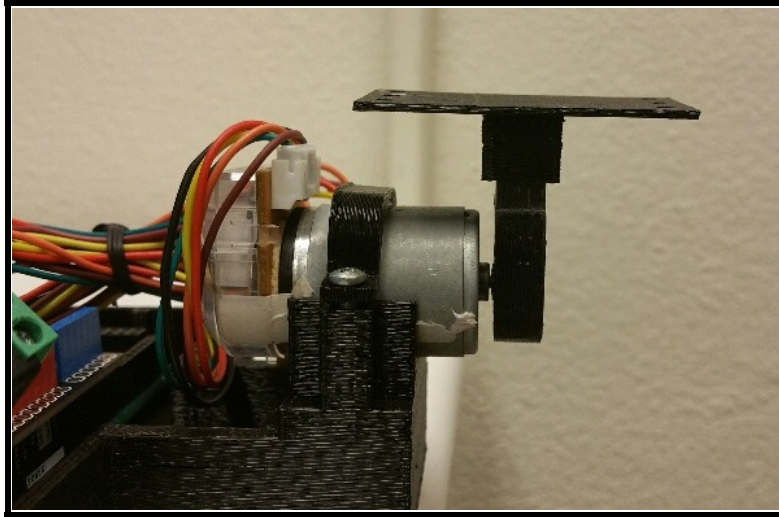

Figure 2.11: Motor Attachment to Motor
17. Place the motor attachment, that you glued together, onto the motor's gear, as in Figure 2.11.